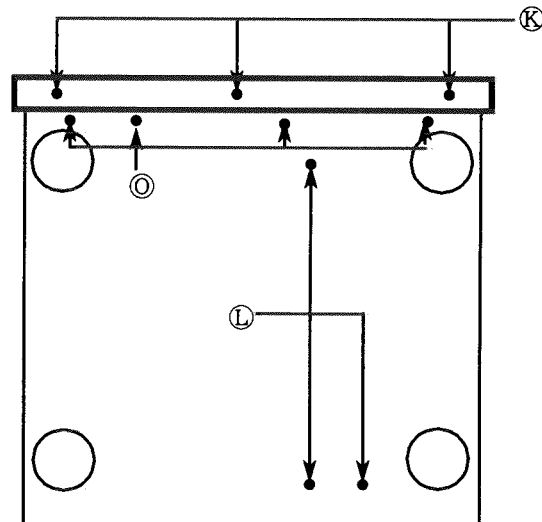

FIG.4 Bottom side
4. Remove 4 screws (O).(FIG.4)
5. Remove 3 screws (U).(FIG.4)